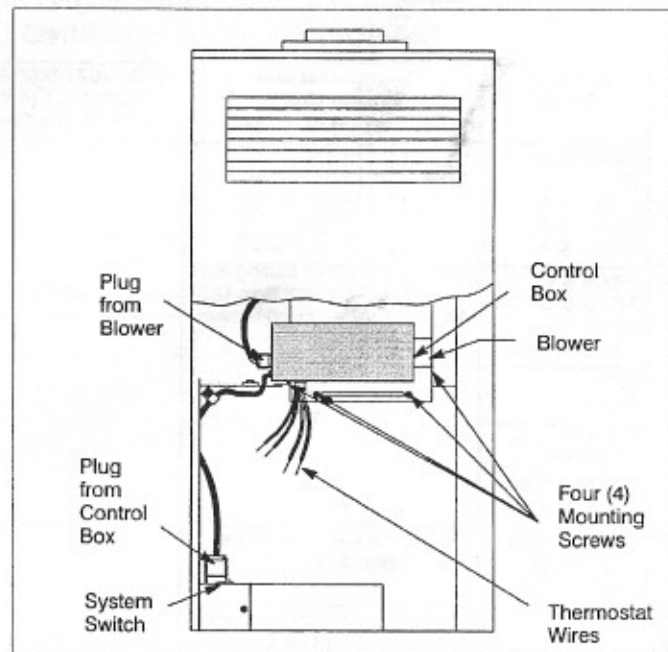

Figure 2
4. Remove the four (4) mounting screws at the blower. (See figure 2).
1. Connect the plug from the blower to the receptacle on the blower control box (See figure 2). **NOTE:** When properly aligned, the plug will slide smoothly into place — **DO NOT FORCE**. Insure clasp tabs snap into place.
2. Connect the plug from the blower control box to the receptacle on the furnace control box (See figure 2).